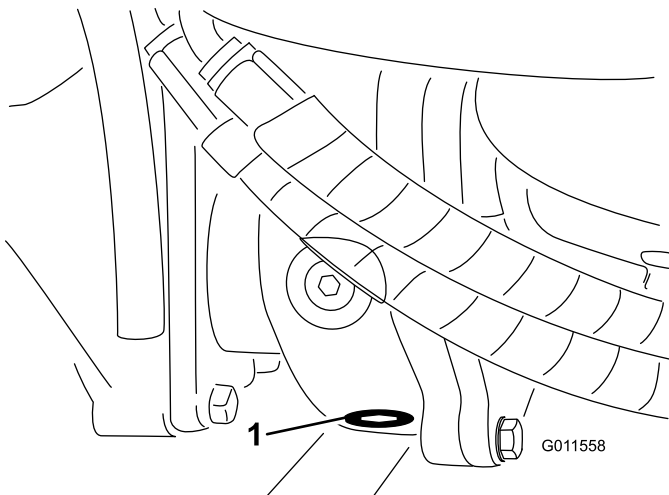

**Figure 69**
2. Clean the area around the 3 drain plugs; 1 on each end and 1 in the center (Figure 69).